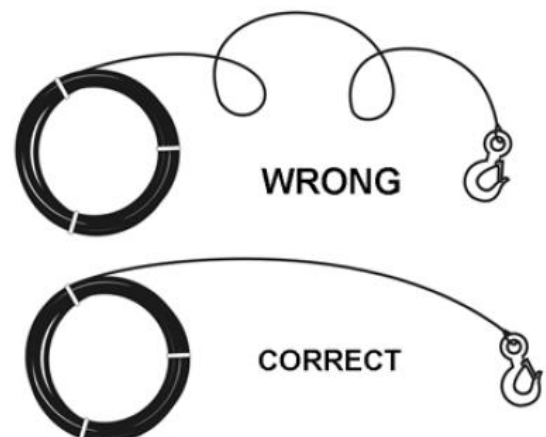

Figure 6
2. Lay out the wire rope correctly without twisting. Twisting the wire rope reduces its strength. See Figure 6.